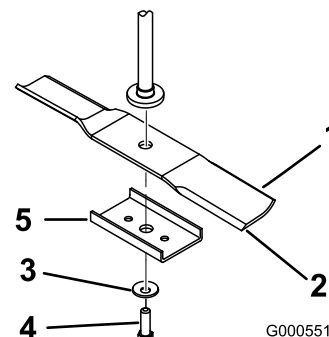

Figure 49
2. Remove the blade bolt, curved washer, and blade from the spindle shaft (Figure 49).
1. Install the blade onto the spindle shaft (Figure 49).
2. Install the curved washer (cupped side toward the blade) and the blade bolt (Figure 49).